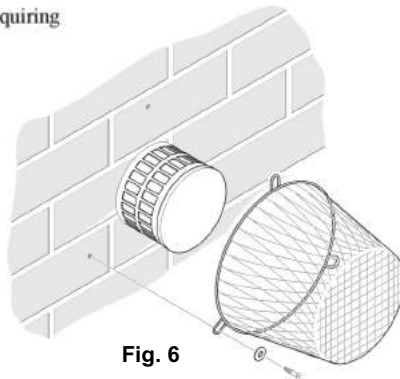

Fig. 6
- c. The guard must be screwed to the wall over the flue terminal and be at least 50mm (2 in) clear of any part of the terminal. A suitable guard is available direct from the GDC Group service dept., Part No. 080266 (Fig. 6).